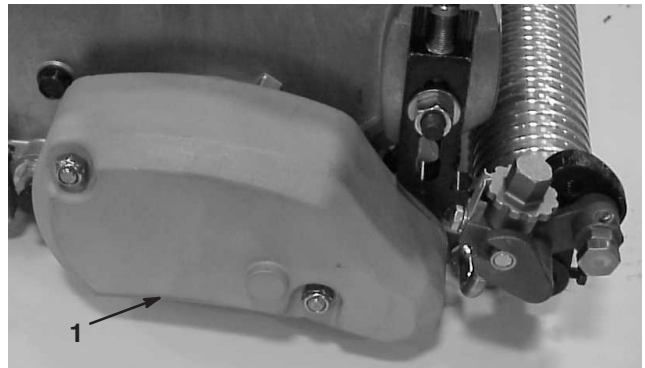

Figure 24
- 41. Mount cover to groomer housing assembly with (2) lock nuts (Fig. 24).